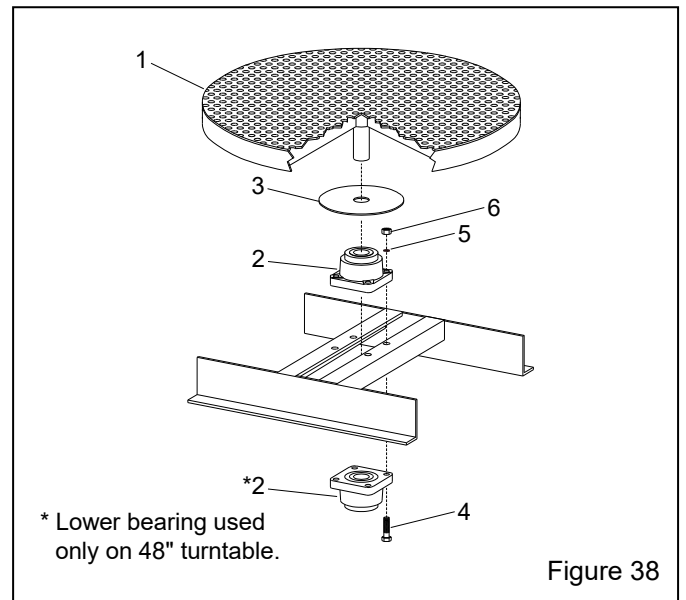

Figure 38
**Fixed-Base Turntable with Bearing, 500 lb. Capacity – Figure 38**